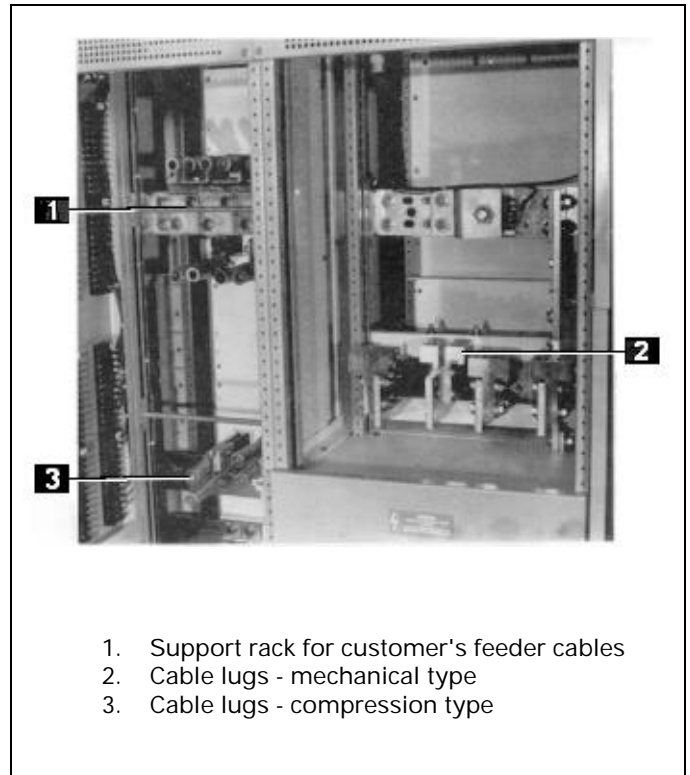

Fig. 3-20. Cable termination provisions
The rear cable and terminal compartment, Fig. 3-20, provides for cable installation and terminations. The cable bending space meets the requirements of the 2005 National Electric Code. Various arrangements of single or double cable terminals are provided, depending upon the purchaser's requirements.
When specified, racks (1), Fig. 3-20, for the support of feeder cables are located in the cable compartment. The actual support of the cables is provided by lashing them to these racks.